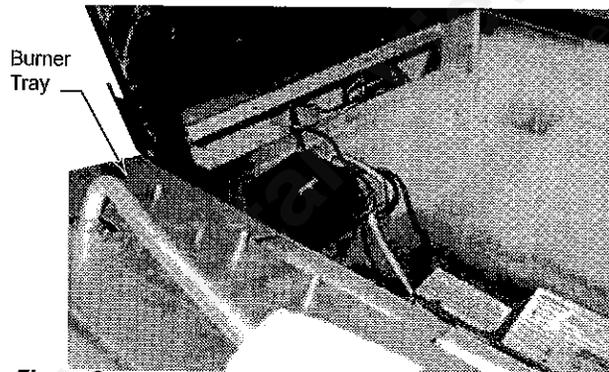

Figure 8
3. **LHEC models only:** Tilt the burner tray with the front down and the back up ready to complete the installation. *Figure 8*